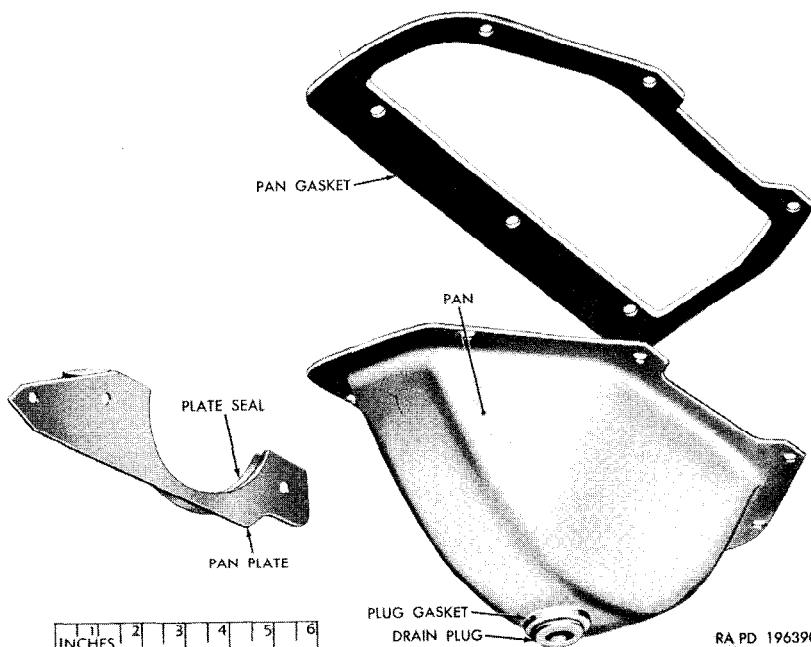

Figure 157. Clutch housing pan and pan plate (late-type).
188. Clutch Housing Pan and Pan Plate (fig. 157)
a. General. Design changes in the clutch housing pan and pan plate provide a change in the pan drain plug and the pan plate seal (par. 6). The drain plug in the clutch pan on early vehicles is a pipe plug, while the drain plug (fig. 157) for pans on later vehicles is of a different type and is provided with a gasket. The clutch pan plate on early vehicles has two seals riveted to the plate, while the plate on later vehicles has a one-piece seal cemented to the plate. Removal and installation procedures are the same for both types of pan and plate.
- (1) Remove the four bolts and lockwashers that secure the pan plate to the front side of the clutch housing and remove the plate with seal.